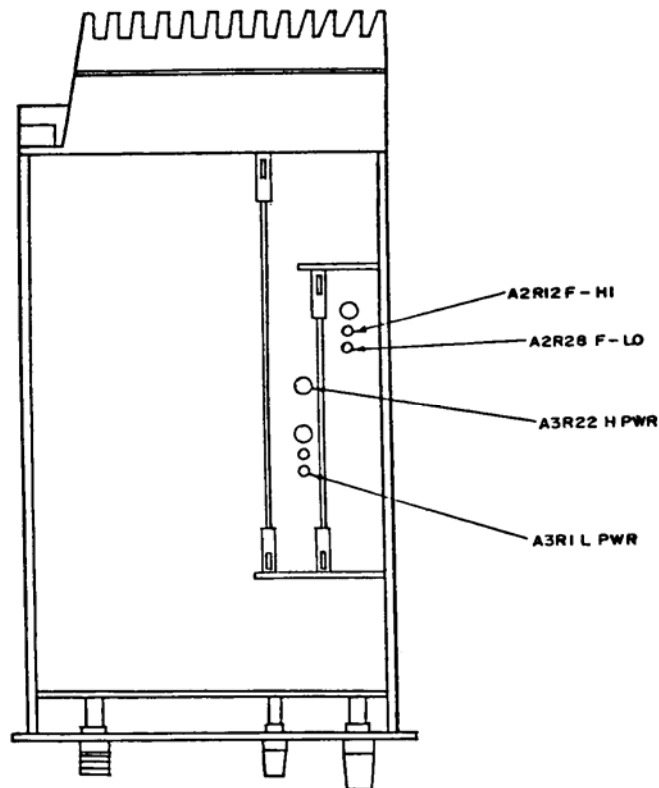

Figure 4. Model 86222A - top view.
(1) Adjust **POWER LEVEL** control to +13.
(2) Adjust A3R22 H PWR (fig. 4) for output power of 13 dB (R).
(3) Adjust **POWER LEVEL** control to 0.
(4) Adjust A3R1 L PWR (fig. 4) for output power of 0 dB (R).
(5) Repeat **a** (4) through (10) and (1) through (4) above for best in-tolerance reading.
(2) Adjust **FREQ CAL** control to midrange and **CW** control for multimeter indication of 0.00 V dc.
(3) Adjust A2R28 F-LO (fig. 4) for microwave frequency counter indication between 8 and 12 MHz (R).
(4) Adjust **CW** control until multimeter indicates +10.00 V dc, and adjust A2R12 F-HI (fig. 4) until microwave frequency counter indicates 2400 MHz (R).